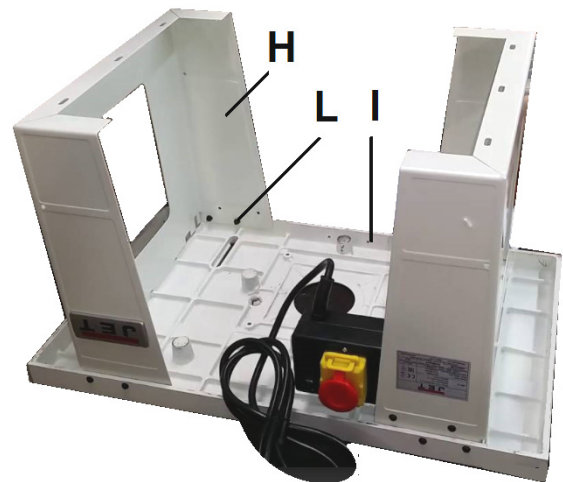

Fig 3
Attach the legs (H, Fig 3) to the table (I) with the supplied pan head screws and nuts (L).